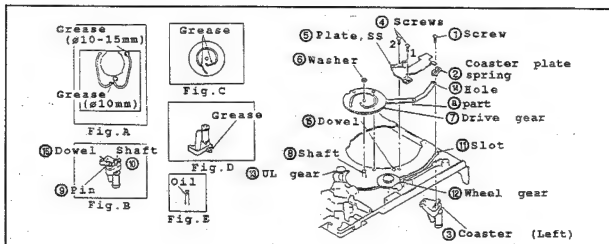

Fig.II-25
• Disassembling (Fig.II-25)
- (1) In the same procedures in "3-3" and "3-12", dismount the capstan motor and the drum unit.
- (2) In the same procedures in "3-13" and "3-14", detach the switch lever, and the loading lever.
- (3) In the same procedures in "3-17", detach the coaster (Right) and the drive gear (Right).
- (4) To take off the coaster plate spring ② and the coaster (left) ③, remove the screw ①.
- (5) To detach the plate SS ⑤, remove the two set screws ④.
- (6) To take off the drive gear (Left) ⑦, remove the washer ⑥ (ø1.5).
• Reassembling (Fig.II-25)
- (1) Apply the grease onto the indicated positions of chassis in the Fig.A.
- (2) Apply the 1/2 drop of oil onto the shaft ⑩. (Fig.E)
- (3) Apply the grease onto the pin ⑨, the shaft ⑩ and the dowel ⑤ of coaster (Left) ③. (Fig.B)
- (4) Assemble the pin ⑨ and the shaft ⑩ aligning the slot ⑪.
- (5) Insert the driver gear (Left) ⑦ into the shaft ⑩ while meshing with the wheel gear ⑫ and the UL gear ⑧.
- (6) Align ④ part with the slot ⑪, and the hole ④ with the pin ⑨ of coaster (Left) ③.
- (7) Secure it with the washer ⑥ (ø1.5).
- (8) Install the coaster plate spring ② while aligning the shaft ⑩ and the pin ⑨ of coaster (Left) ③. Then, secure it with the screw ①. (Torque: 500g/cm, approx)
- (9) Attach the plate SS ⑤ while aligning with the dowel ⑤. Then, secure it the two screws ④ in numerical order.
- (10) Apply the grease onto the positions indicated in the Fig.C and D.